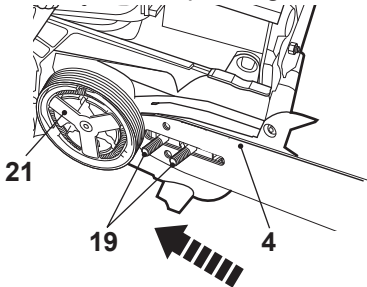

Fig. 7
- > Place the slot in the guide bar (4) over the supporting pins (19). Push the guide bar (4) to the left towards the drive sprocket (22) (behind the clutch (21)) (Fig. 7).